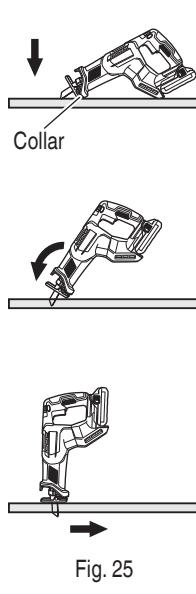
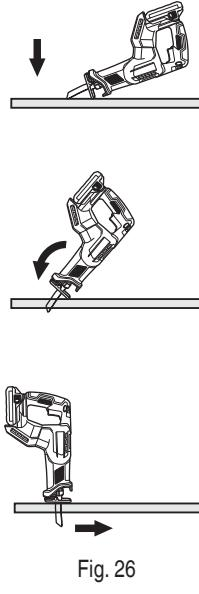

Fig. 25
Fig. 26
5. Plunge cutting (Fig. 25, and Fig. 26)
With this tool, you can perform plunge cutting on plywood panels and thin board materials. You can carry out plunge cutting quite easily with the saw blade installed in reverse as illustrated in Fig. 26. Use the saw blade that is as short and thick as possible.